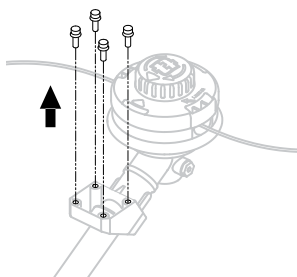

Fig. 2A
1. Unscrew and remove the four bolts and washers from the base of the attachment. (Fig. 2A)
2. Lift the trimmer head and face it upward. Align the four mounting holes in the guard with the four assembly holes at the base of the shaft. Make sure that the internal surface of the guard faces toward the trimmer head. (Fig. 2A)